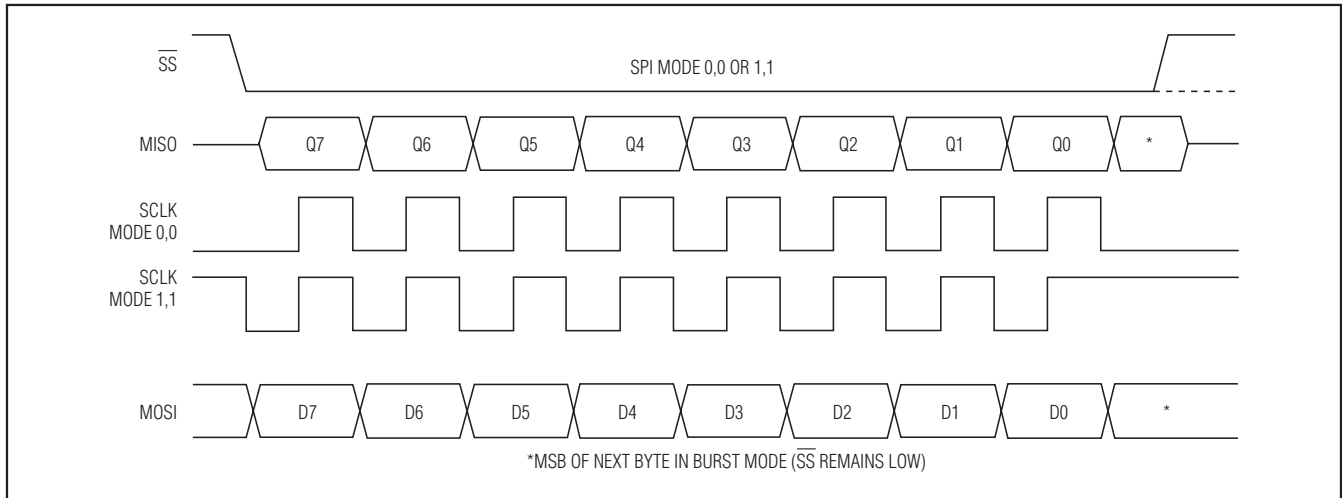

Figure 14. SPI Clocking Modes
The SPI master provides the MAX3420E SCLK signal to clock the SPI interface. SCLK has no low-frequency limit, and can be as high as 26MHz. The MAX3420E changes its output data (MISO) on the falling edge of SCLK and samples input data (MOSI) on the rising edge of SCLK. The MAX3420E ignores SCLK transitions when \overline{SS} is high. The inactive level of SCLK may be low or high, depending on the SPI operating mode (Figure 14).
The MAX3420E SPI interface operates without adjustment in either SPI mode (CPOL = 0, CPHA = 0) or (CPOL = 1, CPHA = 1). No mode bit is required to select between the two modes since the interface uses the rising edge of the clock in both modes. The two clocking modes are illustrated in Figure 14. Note that the inactive SCLK value is different for the two modes. Figure 14 illustrates the full-duplex mode, where data is simultaneously clocked into and out of the MAX3420E.
- (1) When \overline{SS} is high, the MAX3420E is unselected and tri-states the MISO output.
- (2) After driving SCLK to its inactive state, the SPI master selects the MAX3420E by driving \overline{SS} low. The MAX3420E turns on its MISO output buffer and places the first data bit (Q7) on the MISO output (Figure 14).
- (3) The SPI master simultaneously clocks the command byte into the MAX3420E MOSI pin, and USB status bits out of the MAX3420E MISO pin on the rising edges of the SCLK it supplies. The MAX3420E changes its MISO output data on the falling edges of SCLK.
- (4) After eight clock cycles, the master can drive \overline{SS} high to deselect the MAX3420E, causing it to tri-state its MISO output. The falling edge of the clock puts the MSB of the next data byte in the sequence on the MISO output (Figure 14).
- (5) By keeping \overline{SS} low, the master clocks register data bytes out of the MAX3420E by continuing to supply SCLK pulses (burst mode). The master terminates the transfer by driving \overline{SS} high. The master must ensure that SCLK is in its inactive state at the beginning of the next access (when it drives \overline{SS} low). In full-duplex mode, the MAX3420E ignores data on MOSI while clocking data out on MISO.